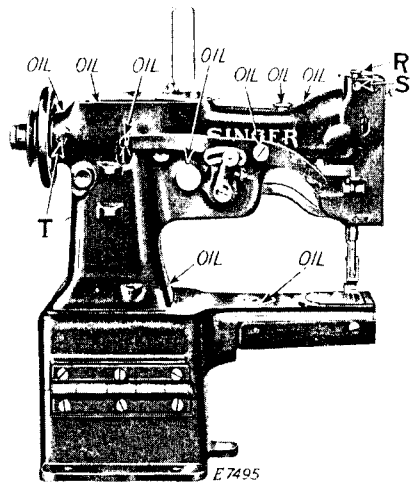

Fig. 5. Back View of Machine, Showing Oiling Points Also Adjustments on the Machine
The pressure on the material is regulated by the thumb screw (R, Fig. 5) at the top of the machine. To increase the pressure, loosen the lock screw (S, Fig. 5) at the rear of the machine and turn the thumb screw (R) over to the right. To decrease the pressure, turn the thumb screw (R) over to the left. When the desired pressure on the material is obtained, tighten the lock screw (S).